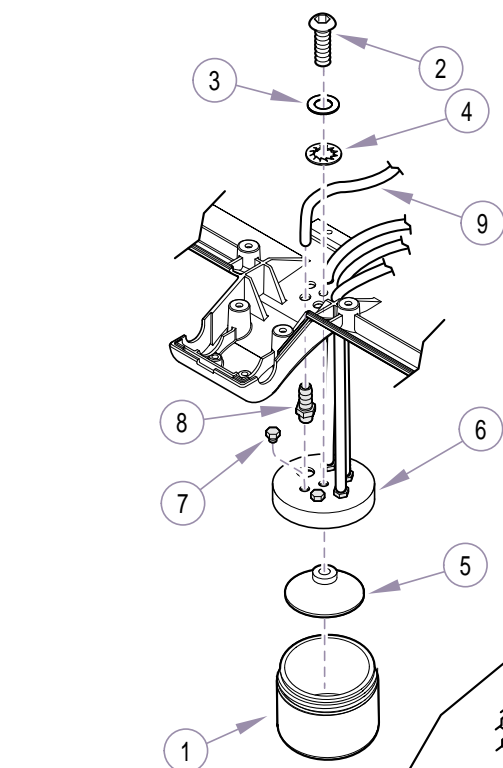
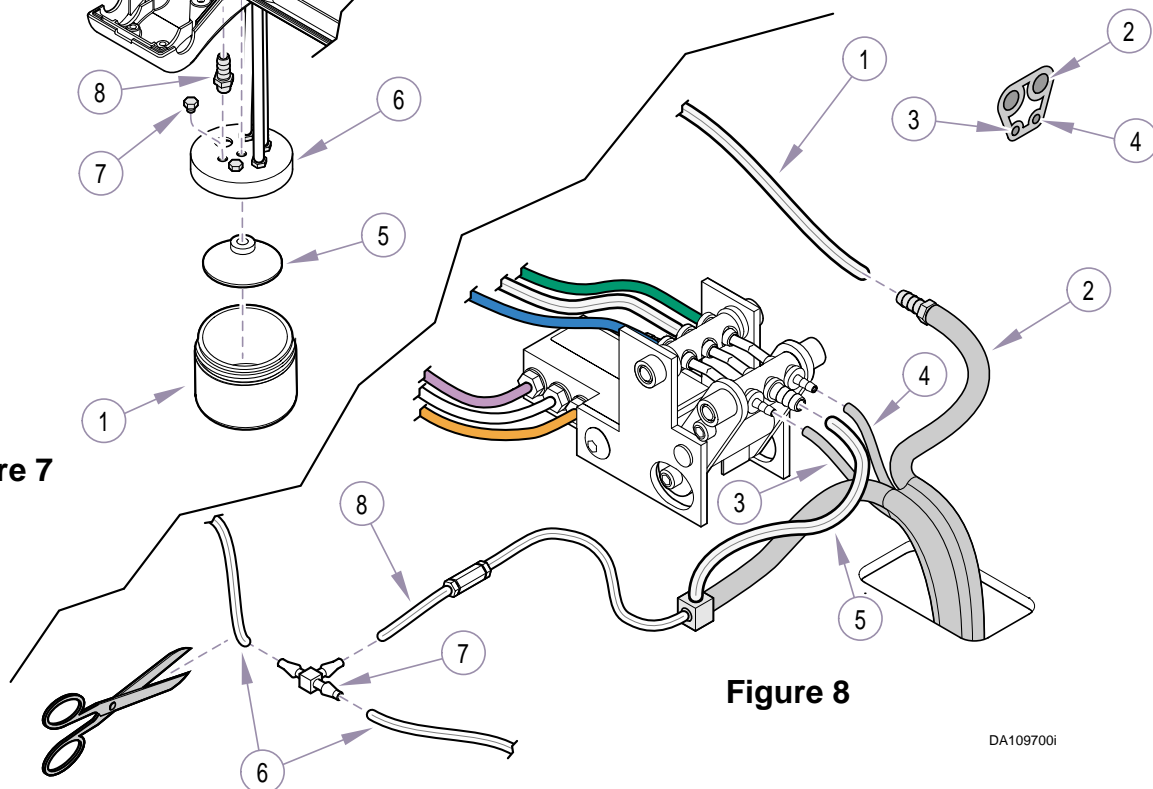

Figure 7
Figure 8
- (1) Remove air/oil separator bottle (1, Figure 7).
- (2) Remove screw (2), washer (3), lockwasher (4), and diffuser (5).
- (3) Partially separate lid (6); then remove one plug (7) and install 1/4" barb fitting (8).
- (4) Position lid (6) and hold diffuser (5) in place; then secure with screw (2), washer (3), and lockwasher (4).
- (5) Install air/oil separator bottle (1).
- (6) Connect 1/4" clear tubing (9) [shipped w/kit] to barb fitting (8).
- (7) Route handpiece tubing up thru hole in housing.
- (8) Connect 1/4" clear tubing (1, Figure 8) [from air/oil separator] to 1/4" grey handpiece tube (2) as shown.
- (9) Connect 1/8" grey handpiece tube (3) to kink valve as shown.
- (10) Connect 1/8" grey handpiece tube (4) to kink valve as shown.
- (11) Connect 1/4" clear tube (5) [from new handpiece tubing] to kink valve as shown.
- (12) Cut 1/8" clear tubing (6) connecting existing handpiece tubing and insert tee fitting (7); then connect 1/8" clear tubing (8) [from new handpiece tubing].